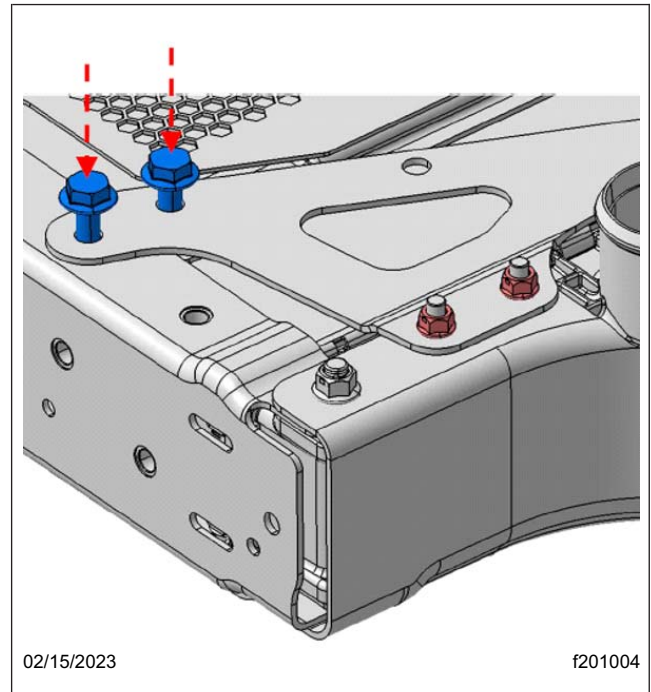

Fig. 5, M10 Flange Bolt Installation
- 10.4 Tighten the M10 hex flange bolts 29 ± 3 lbf·ft (40 ± 4 N·m). See **Fig. 5**.